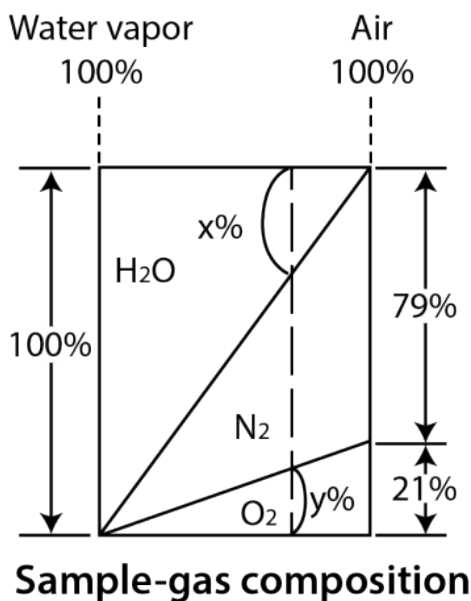

Figure 2.10
**Figure 2.10** shows graphically, if the Oxygen concentration is  $y$  mol%, then the Air concentration is  $(100/21) * y$  mol%. For ideal gases the mol fraction is the same as the volumetric fraction, so 1 mol%= 1 vol%